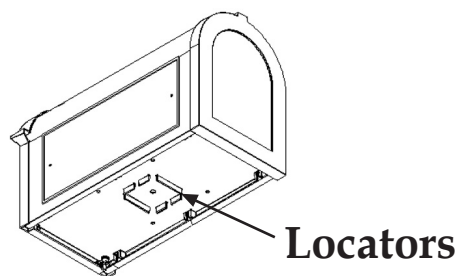

Figure 1
- 2) From post office recommended road setback line add 9" and mark position on ground for front edge of post. (See Figure 1)
- 2) From post office recommended road setback line add 20.5" and mark position on ground for front edge of post. (See Figure 1)